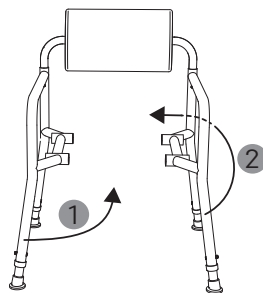

Fig. 26
3. You can now fold the product easily (1, 2, Fig. 26) by swivelling one of the side elements inwards and the other one outwards.